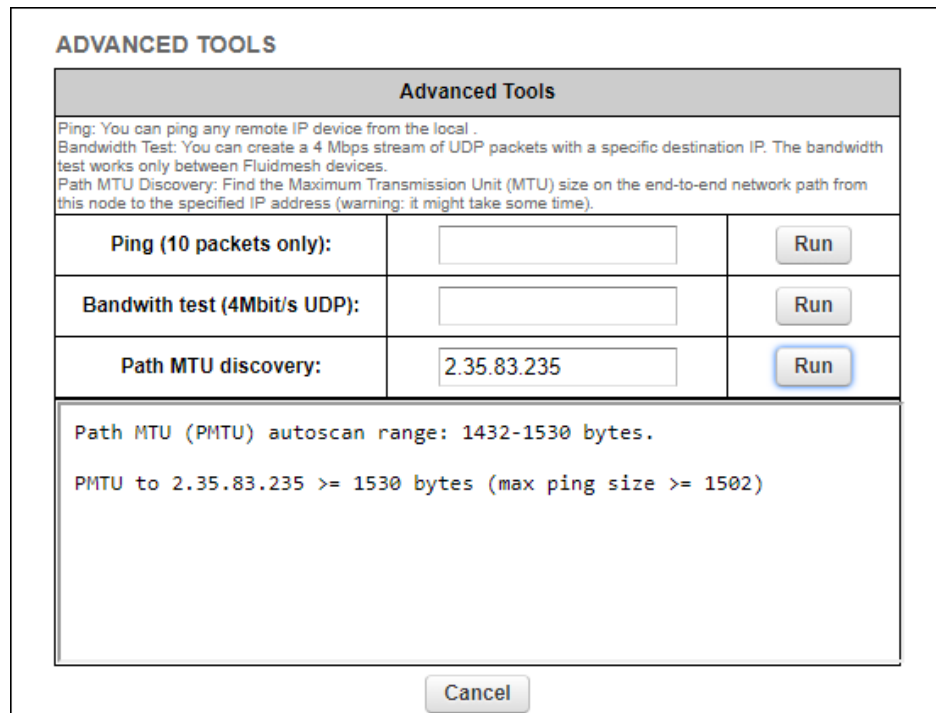

Figure 27. Advanced Tools window (Path MTU test tool)
2. Enter the IP address of the second unit in the **Path MTU discovery** field (Figure 27 \(page 70\)).